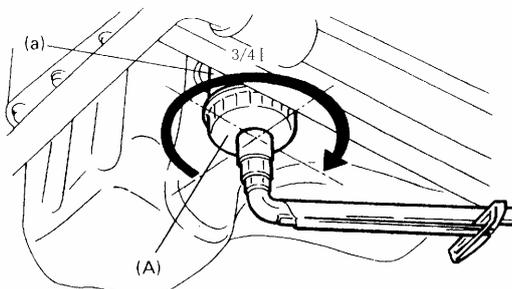

FIG. 5-24
4) As FIG. 5-24, tighten oil filter to 3/4 circle from mounting surface contact point with oil filter spanner.